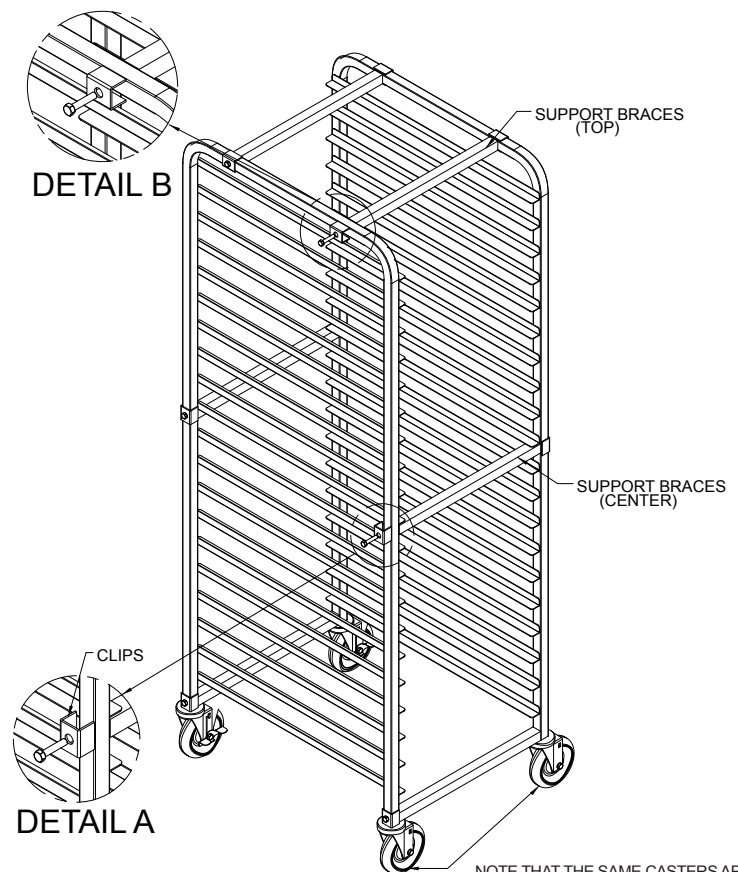

Figure 3
1. Attach (4) support braces to the angle side of one of the side assemblies; (2) at the top and (2) at the center holes on the side tubing with the clips and screws provided (See Fig. 3).
3. Add (4) more clips and fasten together with the screws.
5. Insert the (2) casters with brakes into each bottom of the side tubing on that same opening of the rack.